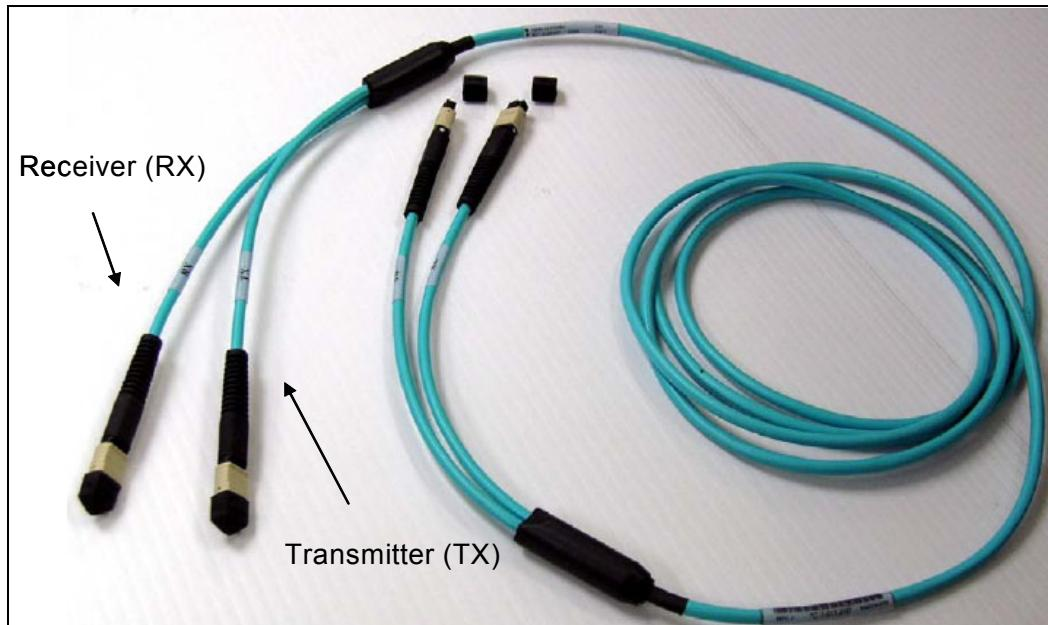

Figure 2-11 Optical InfiniBand cable, including TX and RX labels
- ▶ The 50-micron OM3 (2000 MHz-km) multimode fiber cable with MPO connectors (see Figure 2-11) for PSIFB 12X links.